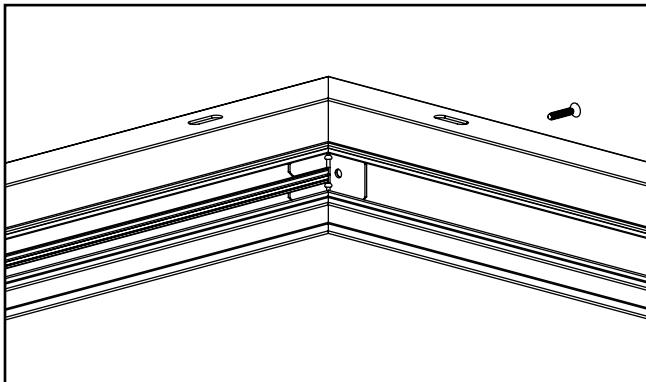

Figure 3.
3. Use included screw to fasten frame pieces together to form a corner. (Figures 3 & 4.)